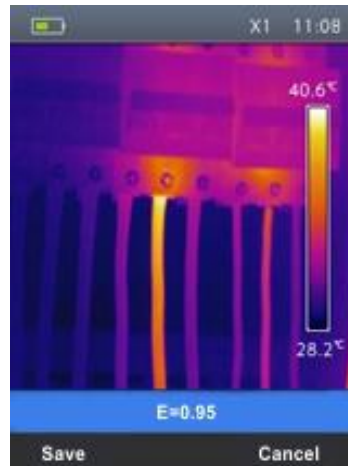

Fig. 29: Saving the image on the display
3. Press the **T** (Trigger) key to freeze the image shown on the display (see Fig. 29).